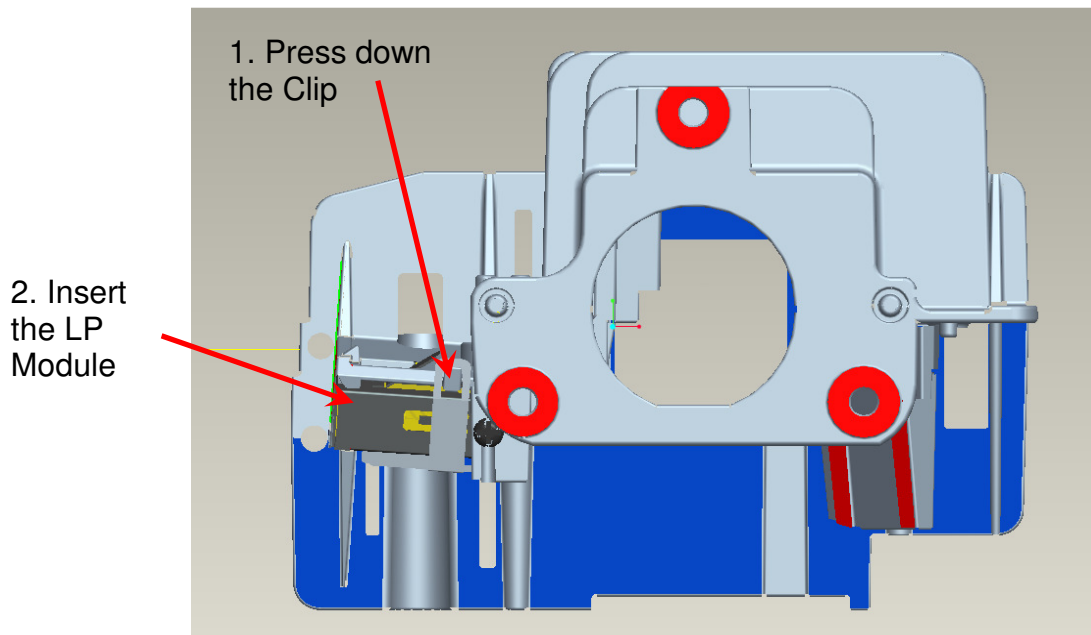

Fig. 1-2
- (2) Press CLIP of RE_BKT_LP first, and then push it into the hole (Fig. 1-2).